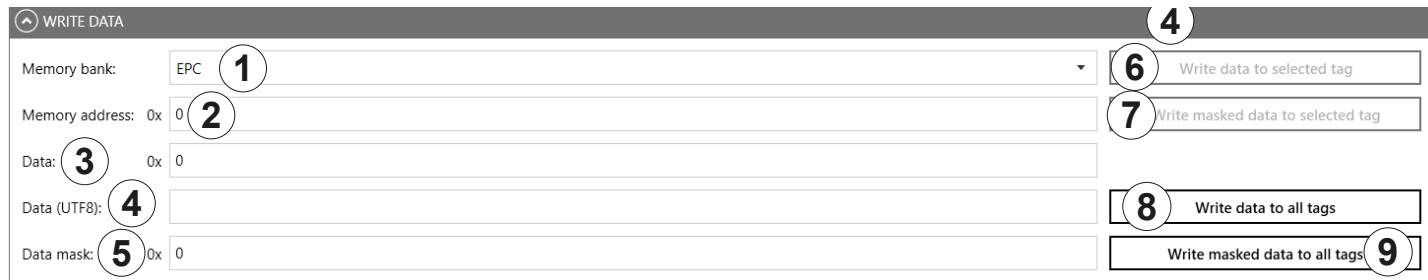

Fig. 74: Test Gen2: write data
①	Memory bank	enters the selected memory bank
②	Memory address	enters the address within the memory bank
③	Data	enters data to write in the hexadecimal format
④	Data (UTF8)	enters data to write in the UTF8 format
⑤	Data mask	enters the data mask The data mask allows only individual bits on the tag to be changed.
⑥	Write data to selected tag	writes data to the selected tag in the field
⑦	Write masked data to selected tag	writes the masked data to the selected tag
⑧	Write data to all tags	write data to all tags in the field ! ► If the data are written to all tags in the field, make sure all the tags have the same configuration (lock and password).
⑨	Write masked data to all tags	writes the masked data to the all tags in the field
To change the password, enter the current password at ① in Fig. 74. If no password has yet been set, the default value is 0.